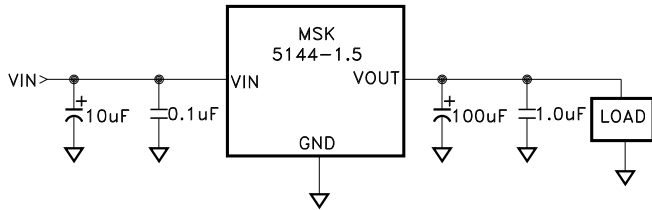

FIGURE 1
- ① The output is decoupled to ground using a 100μF low ESR tantalum capacitor in parallel with a 1μF ceramic capacitor. See figure 1 for typical circuit.
- ② Guaranteed by design but not tested. Typical parameters are representative of actual device performance but are for reference only.
- ③ Minimum input voltage is as specified or V_{OUT} + V_{DROPOUT}, whichever is greater.
- ④ Industrial grade devices shall be tested to subgroups 1 unless otherwise requested.
- ⑤ Military grade devices ("H" suffix) shall be 100% tested to subgroups 1,2 and 3.
- ⑥ Subgroup 1 TC = +25°C